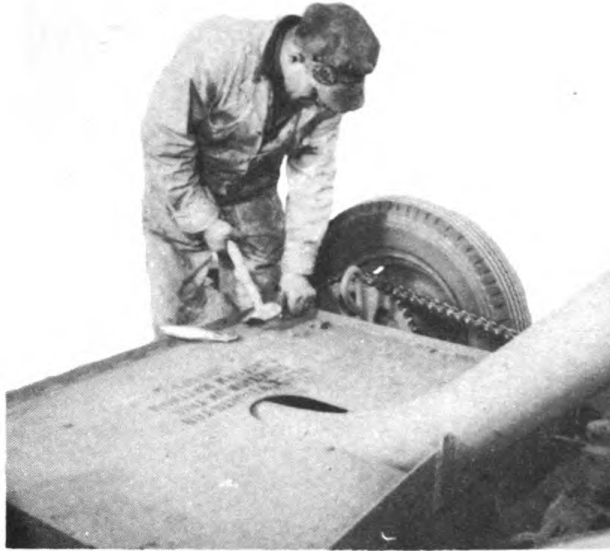

Fig. 29
4. Using a drift and a hammer, drive out the pin rollers and remove the chain. (See Fig. 29, Page 42).